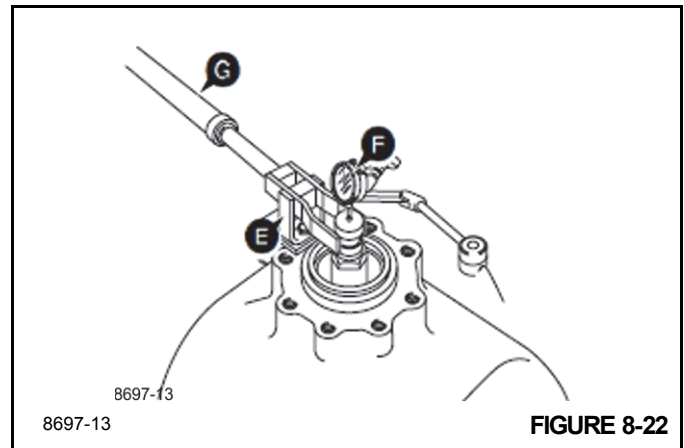

FIGURE 8-22
15. Fit special bracket **D** to the drive-head housing using two M10 x 30 nuts and bolts. Fit special tool support pillar **E** (Figure 8-22) to bracket **D** so that the fork end engages in adapter **C**. Ensure that fork **E** is centrally located on adapter **C**. If necessary, re-align bracket **D** to suit.